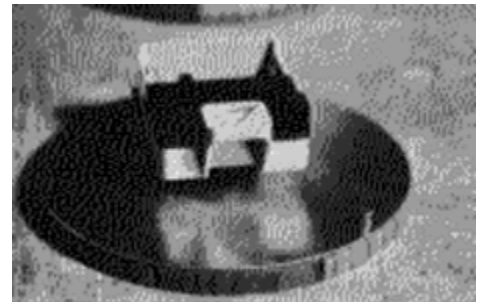

Figure 17
59. Join the dial plate to the bezel ring with three screws (see **Figure 17**).